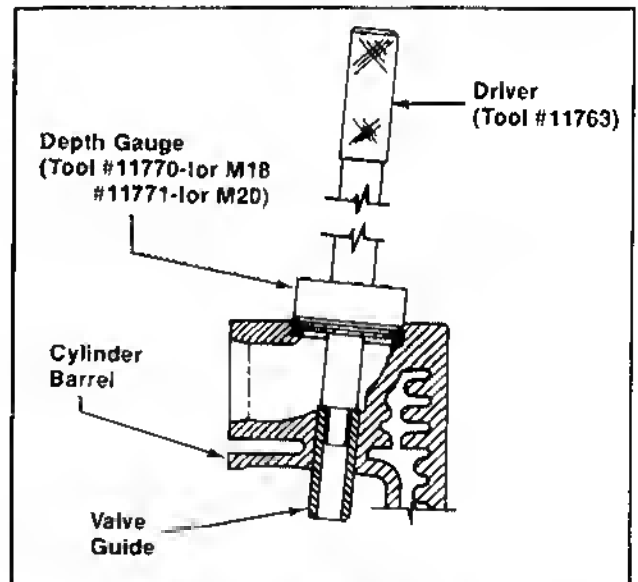

Figure 10-7. Installing Valve Guide.
2. Using valve guide driver (Refer to Section 2, "Special Tools"), align and then press guide in until valve guide driver bottoms on depth gauge. See Figure 10-7.